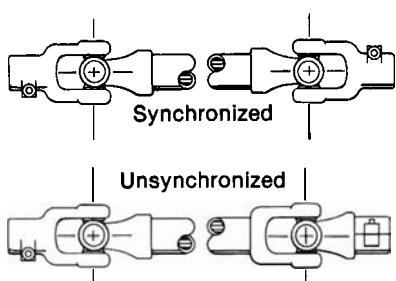

Figure 6
3. Make sure tumbling bar (coupling shaft) is assembled with its universal joint knuckles "synchronized," as illustrated in *Figure 6*. If knuckles are not synchronized, the bar will chatter when rotating, which will cause the generator output voltage to fluctuate.